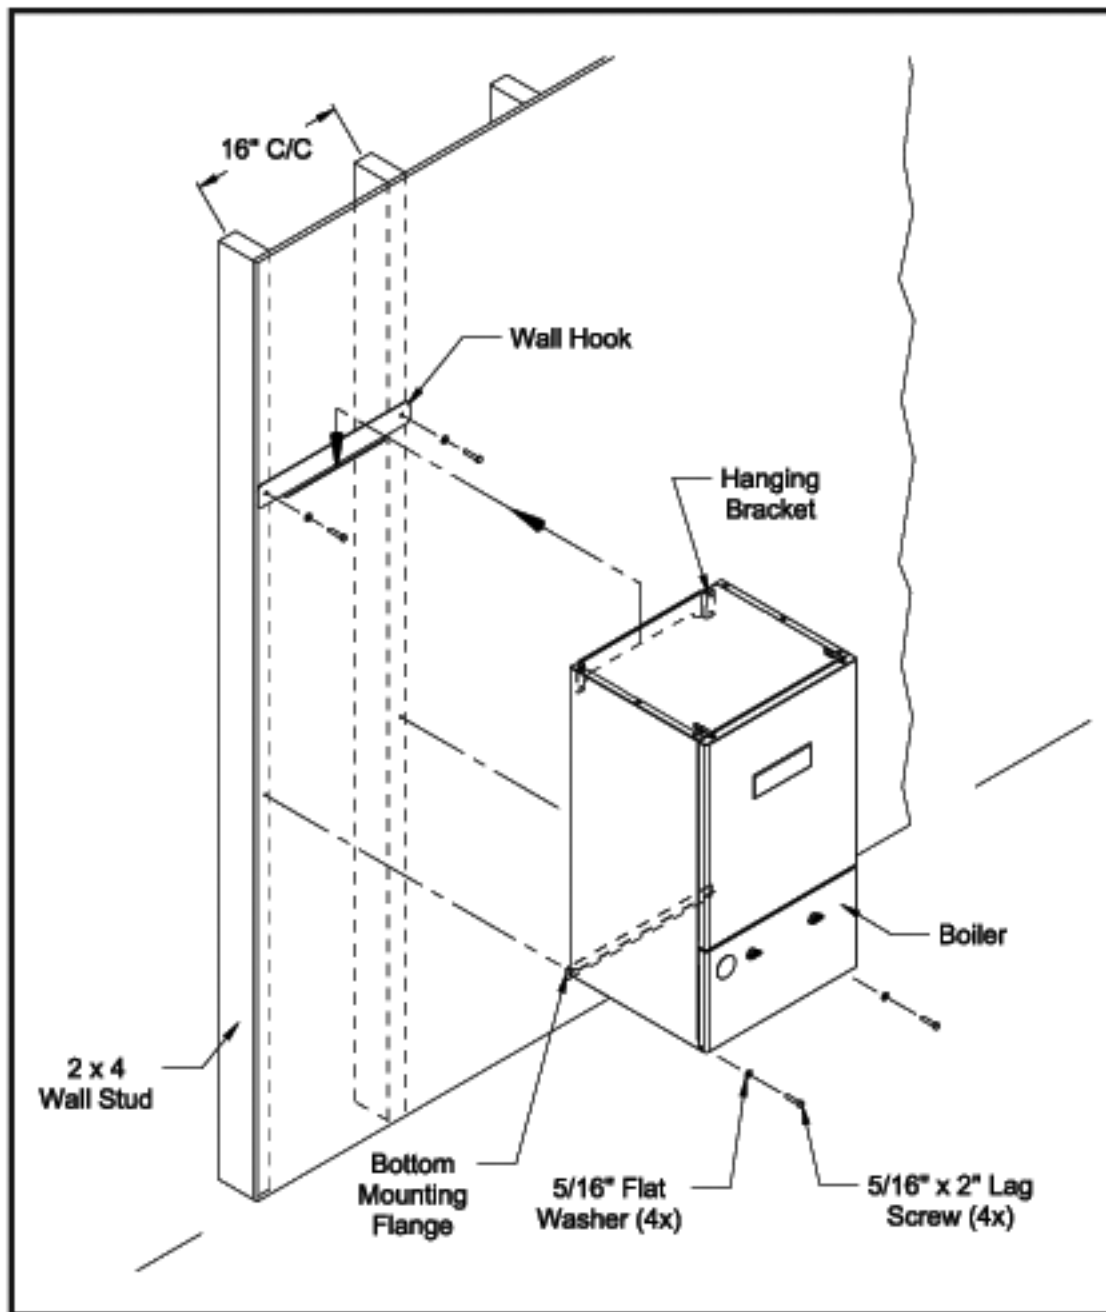

Figure 5.2 Boiler Mounting/Hardware
- 7) Attach the wall hanging hook using the  $\frac{5}{16}$ " x 2" lag screws and washers, or other suitable anchors as appropriate (Figure 5.2). Make sure the hook is level.
- 8) Hang the boiler on the wall hook as shown in figure 5.2.
- 9) If not already done in Step (4) locate and drill holes "C" and "D" using the ob-round slots in the bottom mounting flange. Secure the bottom flange to the wall using the  $\frac{5}{16}$ " x 2" lag screws, or other fasteners as appropriate (figure 5.2).